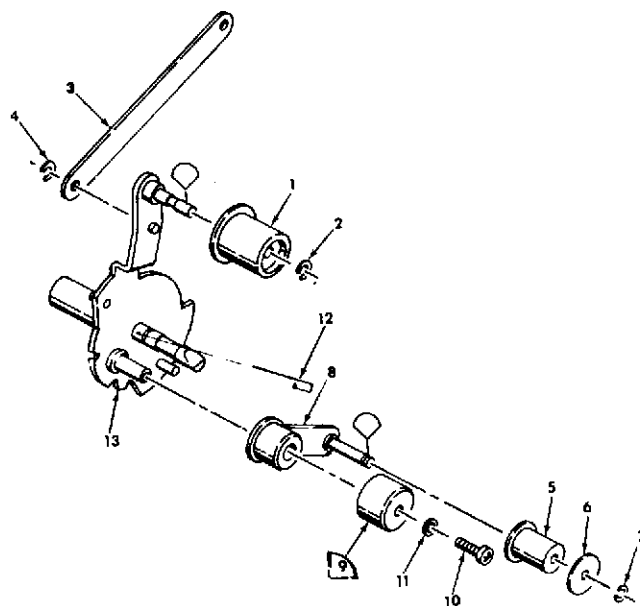

Figure 3-16. THREADING CONTROL PLATE COMPLETE
**4. Threading Control Plate (Fig. 3-16)**
- a. Apply Silicone DC-200 to face and inside diameter of cap (9).
- b. Screw (10) to be tightened with 95 to 105 in. oz. torque.
- c. Rotate arm assembly (8) counterclockwise until it is stopped by center shaft. When released, arm must return to original position within 3 to 8 seconds.
- e. Roller (1) end play to be .005 to .015.